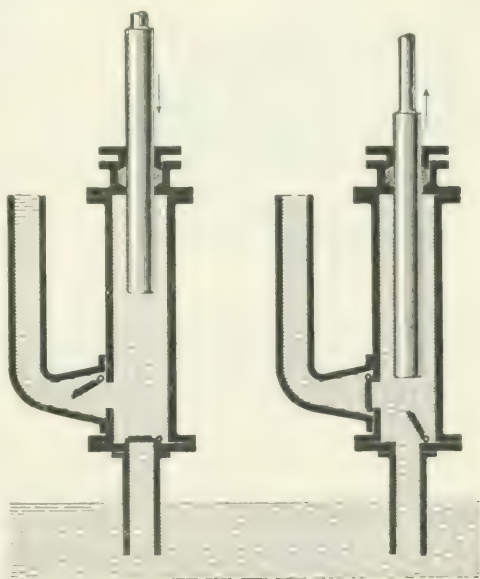

FIG. 28.
74. Plunger Pumps.—When force pumps are used to convey water to great heights or to force water against heavy pressures, the great pressure of the water makes it extremely difficult to keep the water from leaking past the piston, and the constant repairing and renewal of the piston packing becomes a nuisance and involves serious expense. To obviate this drawback, plunger pumps have been designed, one of which is shown diagrammatically in Fig. 28. The action